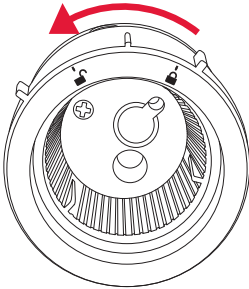

Figure 2
2. Rotate the capsule holder anti-clockwise (towards the unlock position). See figure 2.